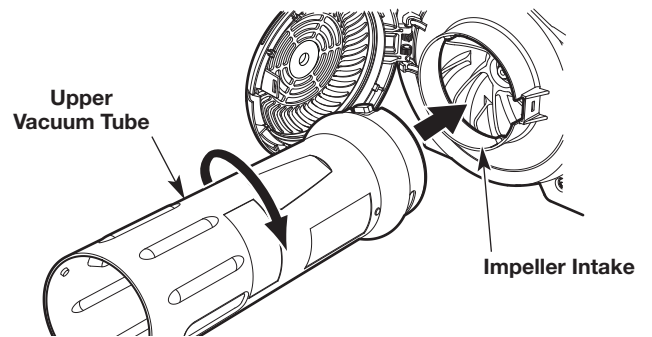

Fig. 7
4. Insert the upper vacuum tube into the impeller intake (Fig. 7).
5. Twist the upper vacuum tube clockwise with both hands until it locks into place (Fig. 7).